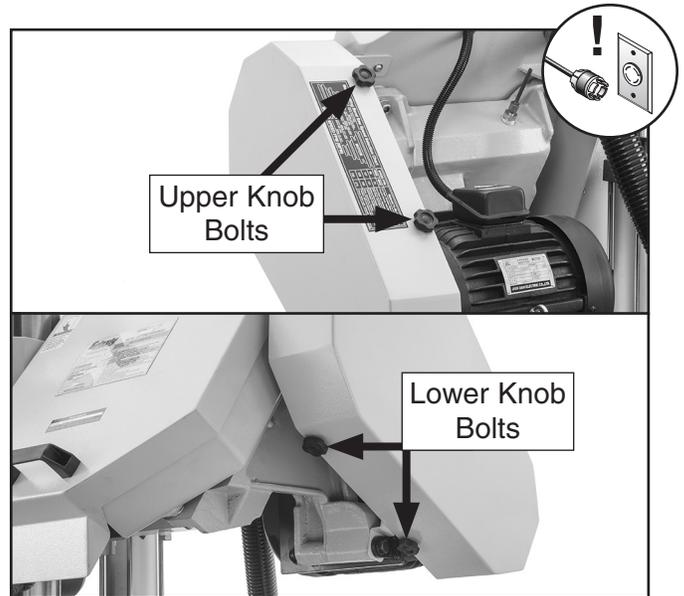

Figure 37. Location of pulley cover knob bolts.
2. Remove (4) knob bolts (see **Figure 37**) that secure pulley cover to frame. Support pulley cover as you remove knob bolts.